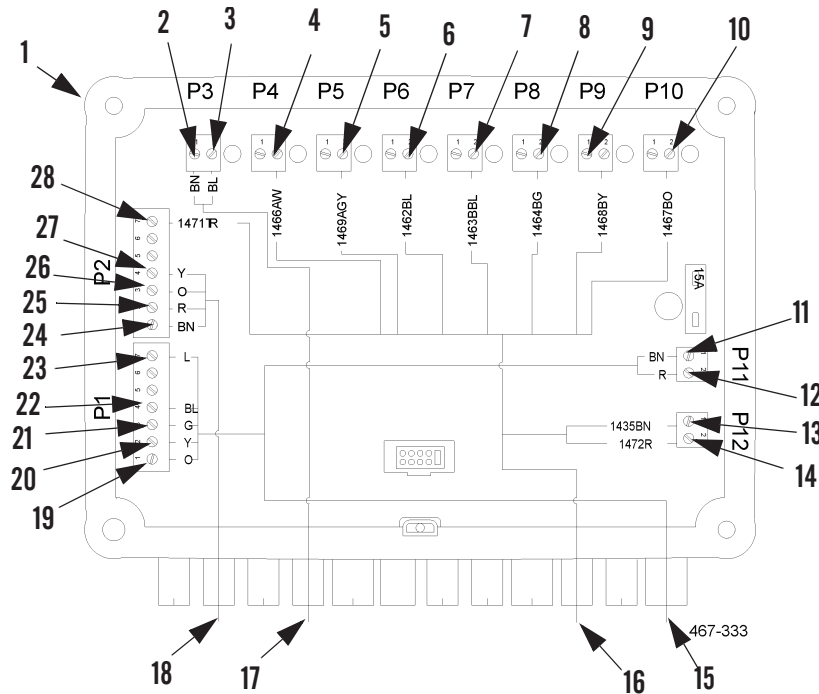

Figure 13. Relay Box Wiring Removal.
1. Disconnect orange wire from position 1 (Figure 13, Item 19), yellow wire from position 2 (Figure 13, Item 20), green wire from position 3 (Figure 13, Item 21), blue wire from position 4 (Figure 13, Item 22), and lilac wire from position 7 (Figure 13, Item 23) on P1.
2. Disconnect brown wire from position 1 (Figure 13, Item 11), and red wire from position 2 (Figure 13, Item 12) on P11.
3. Remove CAN bus harness (Figure 13, Item 15) from Relay box (Figure 13, Item 1).
4. Disconnect brown wire from position 1 (Figure 13, Item 24), red wire from position 2 (Figure 13, Item 25), orange wire from position 3 (Figure 13, Item 26), and yellow wire from position 4 (Figure 13, Item 27), on P2.
5. Remove CAN bus harness (Figure 13, Item 18) from Relay box (Figure 13, Item 1).
6. Disconnect brown wire from position 1 (Figure 13, Item 2), and blue wire from position 2 (Figure 13, Item 3), on P3.
7. Remove stowage latch harness (Figure 13, Item 17) from Relay box (Figure 13, Item 1).
8. Disconnect 1471 wire from position 7 (Figure 13, Item 28) on P2, 1466 wire from position 2 (Figure 13, Item 4) on P4, 1469 wire from position 2 (Figure 13, Item 5) on P5, and 1462 wire from position 2 (Figure 13, Item 6) on P6.
9. Disconnect 1463 wire from position 2 (Figure 13, Item 7) on P7, 1464 wire from position 2 (Figure 13, Item 8) on P8, 1468 wire from position 2 (Figure 13, Item 9) on P9, and 1467 wire from position 2 (Figure 13, Item 10) on P10.
10. Disconnect 1435 wire from position 1 (Figure 13, Item 13) on P12, and 1472 wire from position 2 (Figure 13, Item 14) on P12.
11. Remove stowage loom harness (Figure 13, Item 16) from Relay box (Figure 13, Item 1).